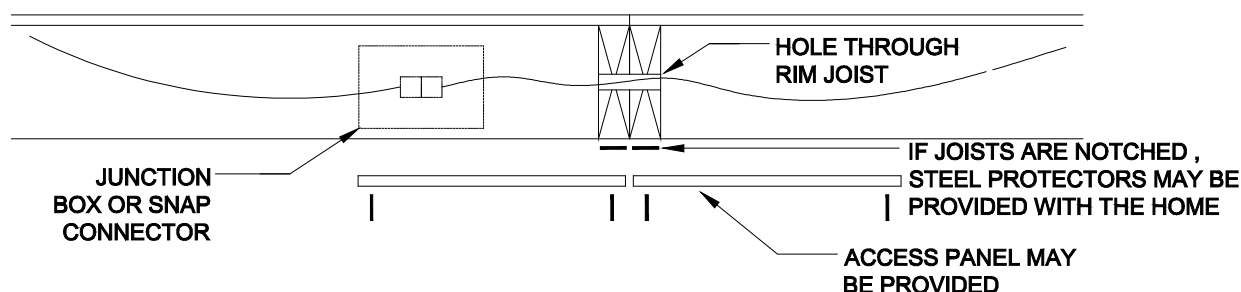

Figure 38. Electrical crossover floor wires with flush access panels
1. **Access wires.** Find the crossover location(s) and remove the access panel(s) if attached. If access panel openings are not provided, cut through bottom board to expose the wiring (**Figure 38**).